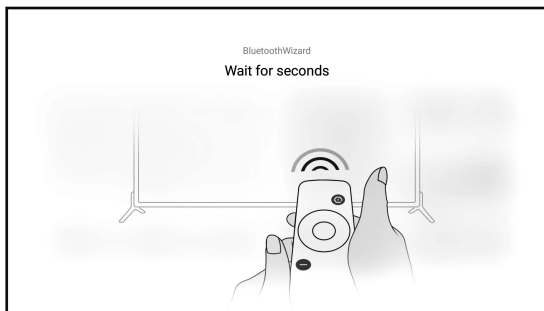

Fig 7 In pairing
- When the remote control indicator lights up for long and the screen will display as Fig 7, loosen the keys and wait for connection.